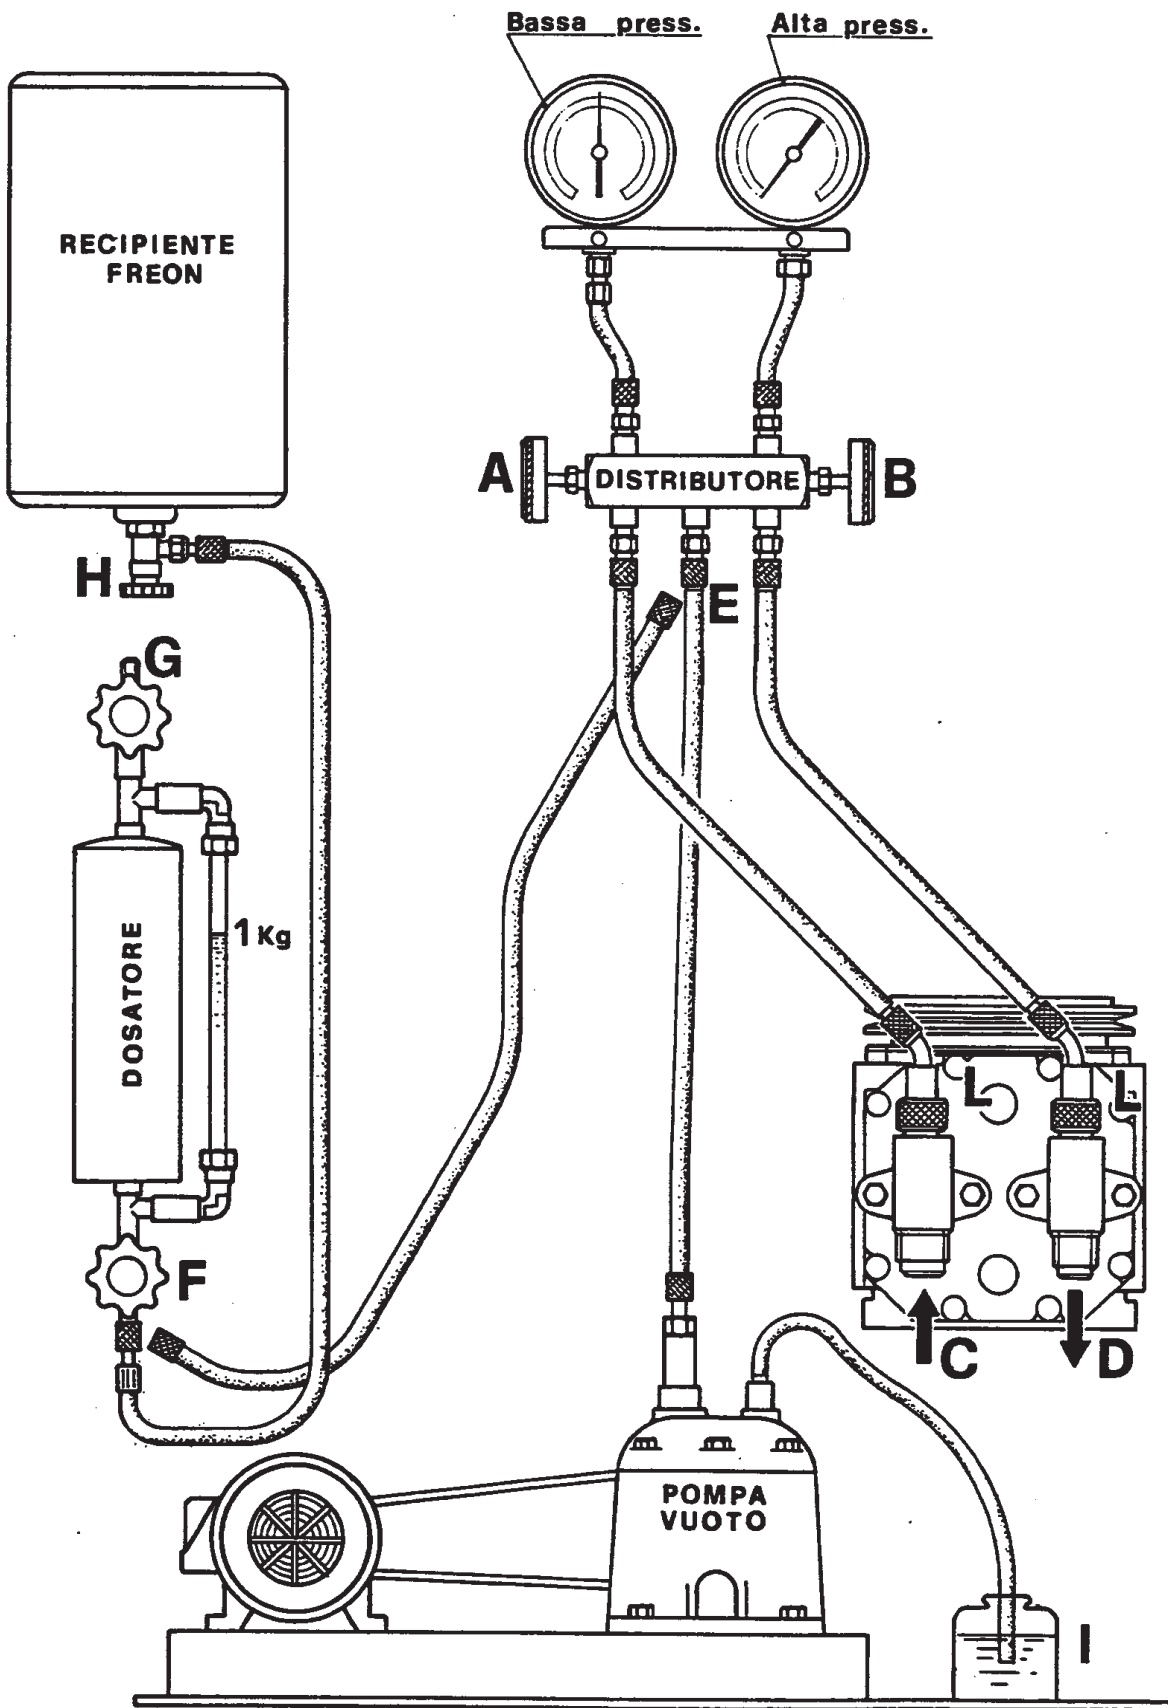

Fig. 5 - DEVICE for SYSTEM RE-CHARGE.
- A graduated cylinder to measure and charge Freon, with visible level and index which should correspond to 1 kg. of Freon, taps, union and pipes (fig. 5).